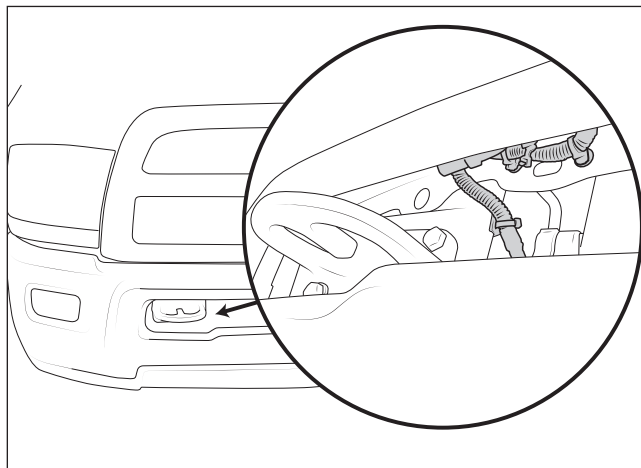

Figure 5
5. Disconnect the block heater plug from the bumper (if equipped)(fig. 5).